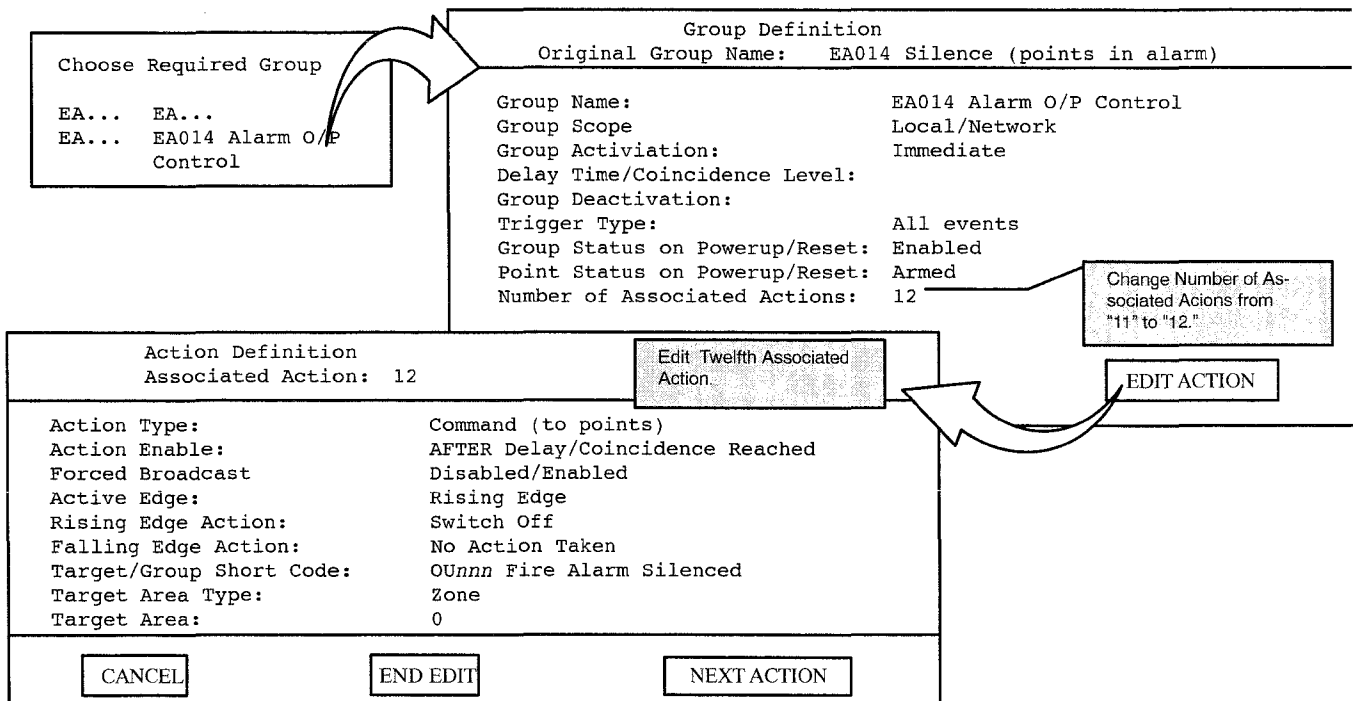

Figure 6. Editing EA014 "Alarm O/P Control" for addition of associated action to turn off OUnnn Fire Alarm Silenced..
3. Edit Event Action Group EA014, "Alarm O/P Control" group (See Figure 6) as follows: